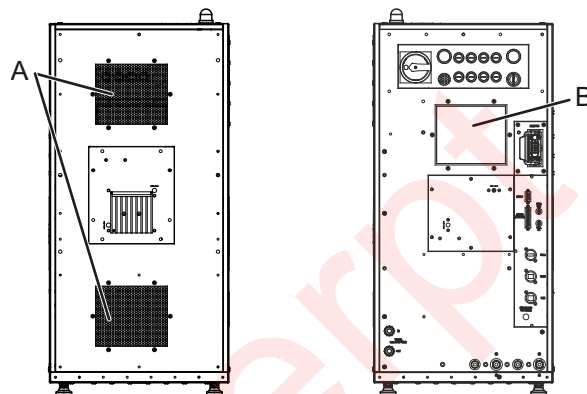

Figure 176: Location of air intake and exhaust
The COMPex laser device has two air intakes on the beam exit side (see Figure 176, A) and a central exhaust outlet with moderate flow rate on the connection side (B).